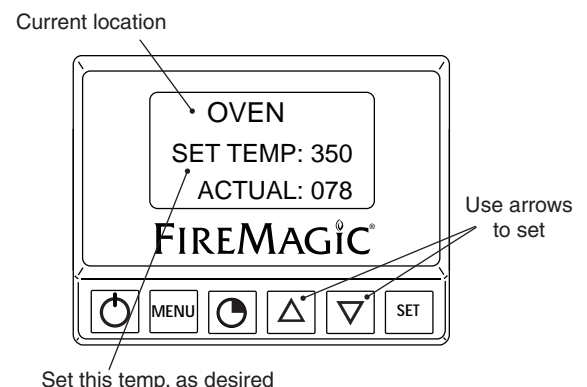

Fig. 19-4 Location temp. screen (oven shown)
2. The selected location's temperature screen will be displayed. Use the arrows to set the desired temp. The actual temp. will also be shown. (See Fig. 19-4)